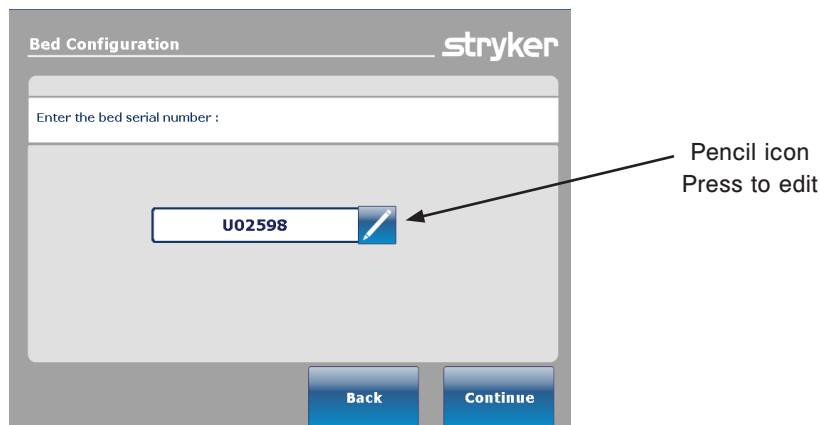

Figure 36: Bed Configuration Serial Number Screen
1. Press and hold the **HOB 30** button and the **Vascular Position** button at the same time for 5 seconds then release both buttons. The Bed Configuration - Serial Number screen (Figure 36) will be displayed.
2. Enter or confirm the serial number of the bed (Figure 36).
- ii. Enter the serial number of the bed in the serial number field, then press the **OK** button. You will be returned to the serial number main screen as shown in Figure 36.